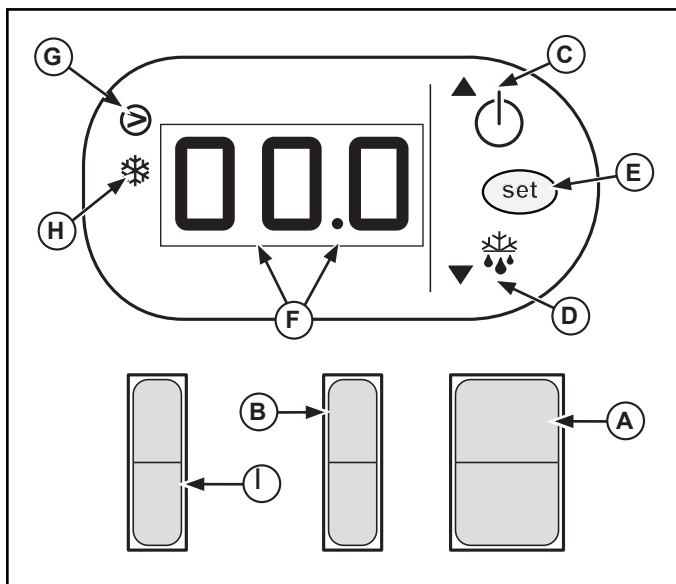

Figure 2. Refrigerated Display Cabinet Switch and Panel .
1. Switch the main power switch (A) to the ON position. See Figure 2.
2. Switch the light switch (B) to the ON position if desired.